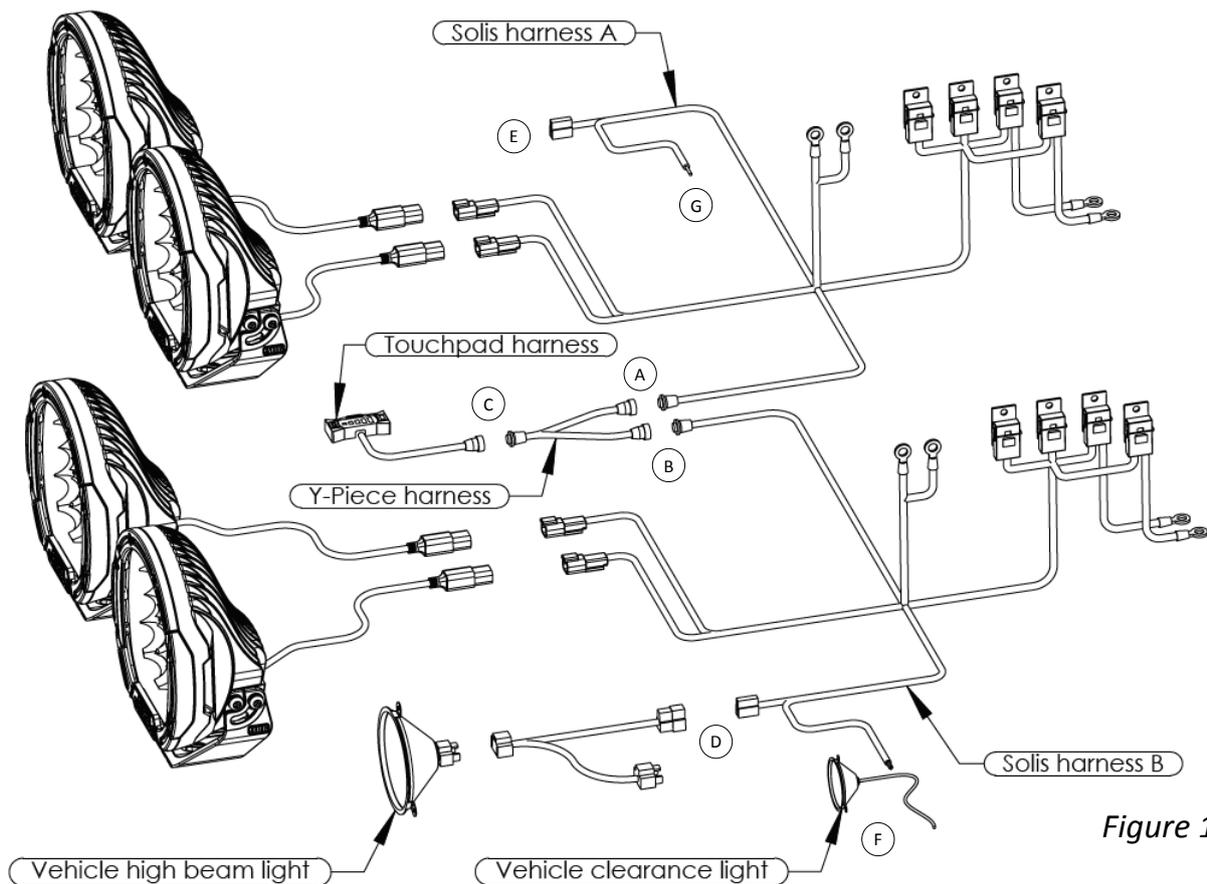

Figure 1
- b) Only one connection with vehicle high beam light is required (Figure 1 ④). The second harness high beam light connector can be tied back and taped (Figure 1 ⑤).
- c) Only one connection with vehicle clearance light is required (Figure 1 ⑥). The second harness clearance light wire can be tied back and taped (Figure 1 ③).
- a) Connect Solis harness A with the #SJBCABY harness (Figure 1 ①).
- b) Connect Solis harness B with the #SJBCABY harness (Figure 1 ②).
- c) Connect #SJBCABY harness with touchpad harness (Figure 1 ③).